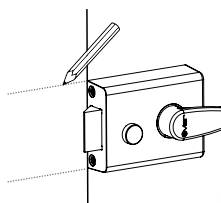
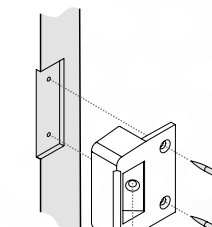

Fig. 7
Fig. 8
8. Close the door into the frame, using the lock case as a guide, mark the position for the striker against the door frame (Fig.7). Chisel out recess in the door frame so the striker sits flush in the frame and the latch body aligns correctly to allow the latch bolt to locate securely in the striker. Then fix firmly in place with the three remaining 25mm wood screws provided (Fig.8).